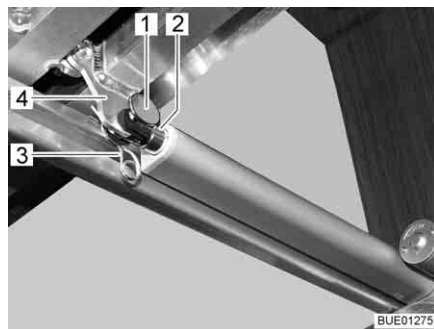

Fig. 135 Drive
- Remove the connection (e.g. pin and cotter pin (Fig. 135,1 and 3)) between the push rod (Fig. 135,2) and the slatted frame (Fig. 135,4).